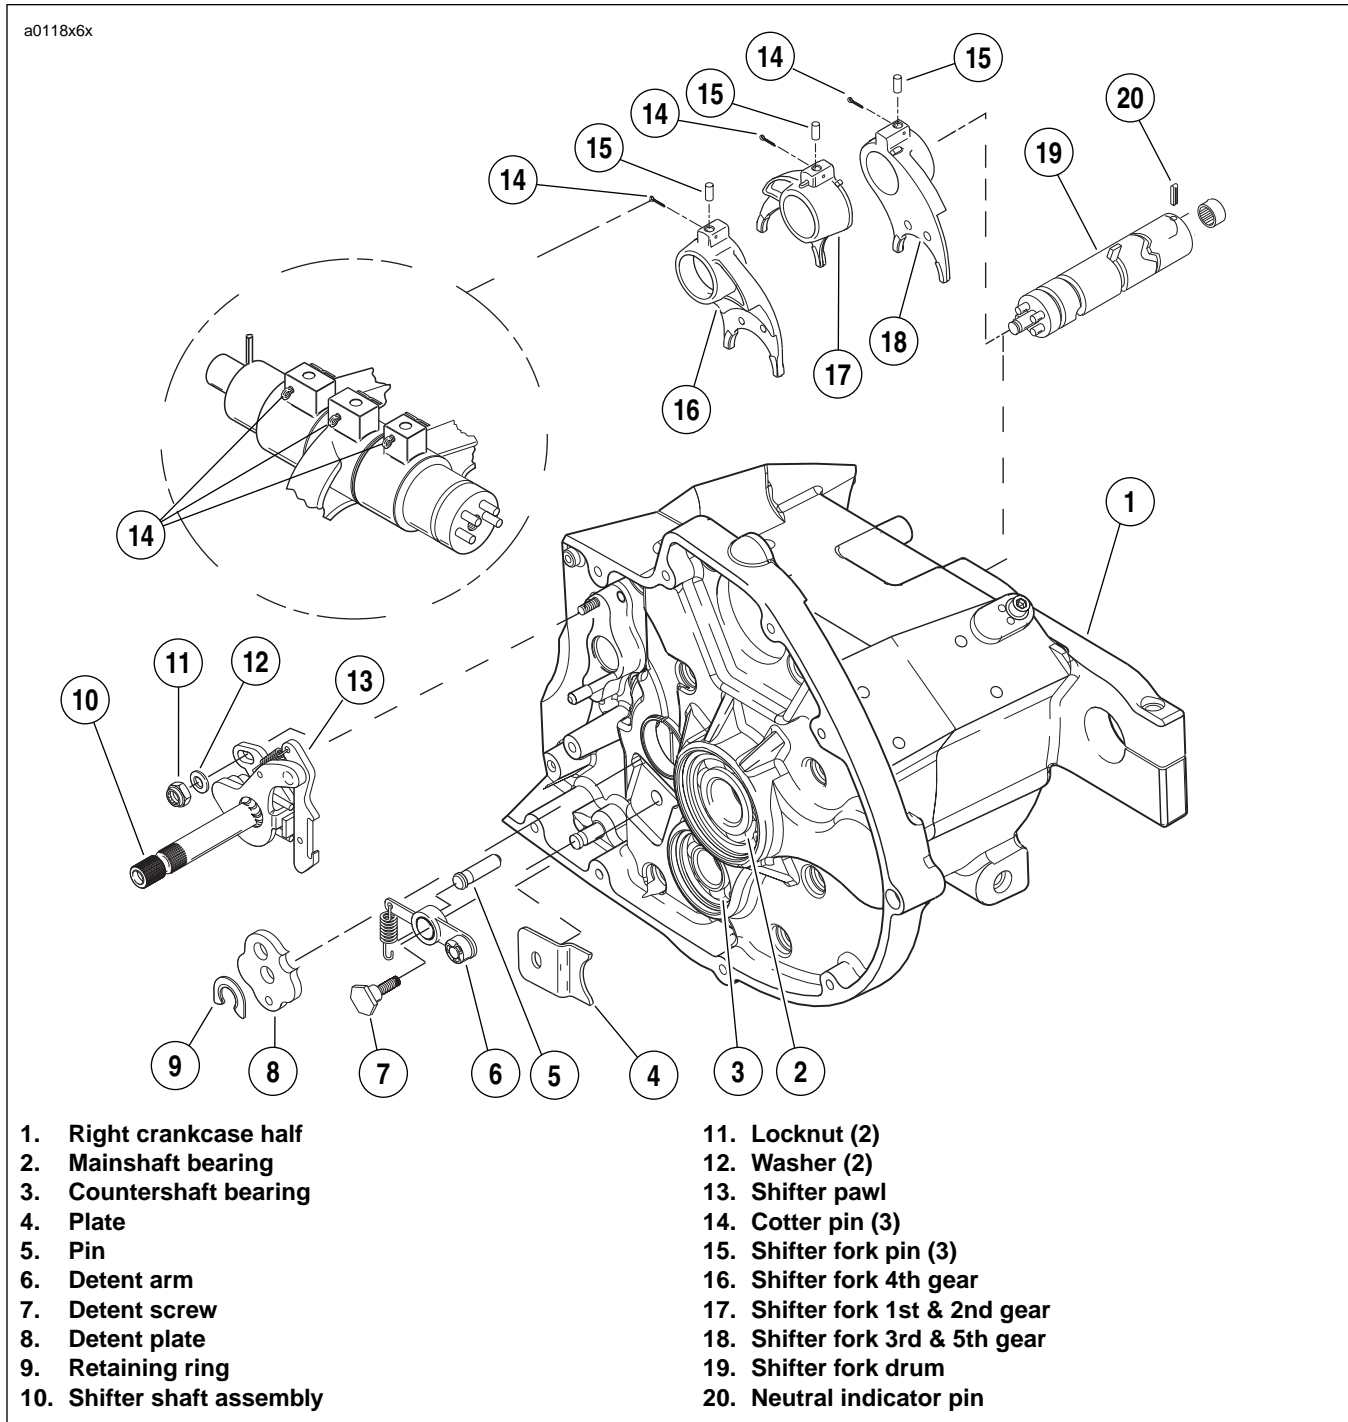

Figure 6-36. Shifter Mechanism
5. See Figure 6-36. Position the shifter drum shaft so that the neutral indicator switch activator pin is upward. The shaft is then in the neutral position.
**To prevent possible cotter pin damage, the pins must be inserted through the shifter forks as shown in the inset of Figure 6-36.**
See Figure 6-36. Insert cotter pins as shown.